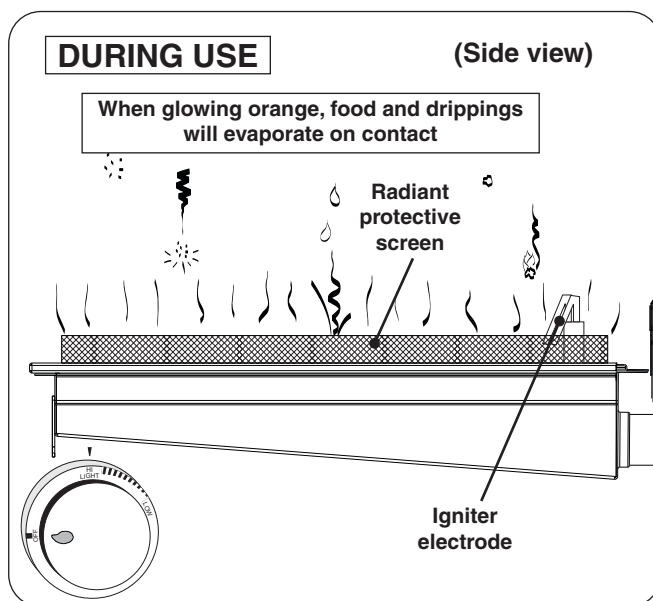

Fig. 26-3 Infrared burner - DURING USE
- **DO NOT place food on the cooking grid until the infrared burner glows orange (Fig. 26-3).** Drippings are heated and evaporate instead of sticking to and impairing burner function.